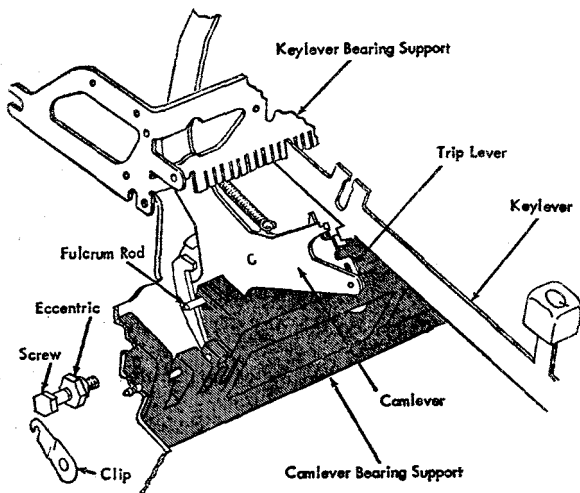

Figure 4. Keylever Bearing Support
The keylevers are mounted in a redesigned keylever-bearing support and fulcrum on a heavier fulcrum rod held by formed lugs in the keylever-bearing support. The assembly is mounted to the side frames and is adjustable in order to obtain proper keylever to trip lever clearance (Figure 4).
2. **KEYLEVER BEARING SUPPORT.** Adjust by positioning the keylever-bearing support so that the keylevers trip the cams when the keylever is $\frac{1}{32}$ " plus or minus $\frac{1}{64}$ " from the bottom of the keylever guide-comb (Figure 4).